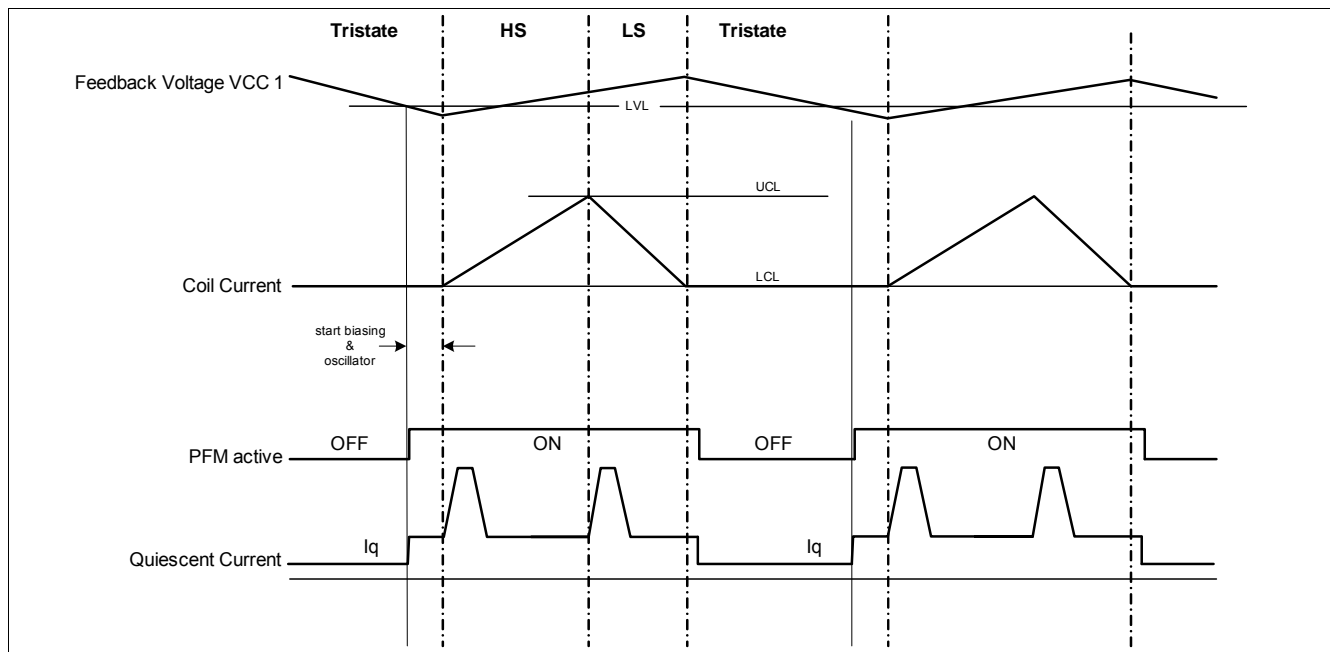

Figure 9 Typical PFM timing diagram
- PFM Mode (Pulse Frequency Modulation): This mode is activated automatically when the SBC Stop Mode is entered. The PFM Mode is an asynchronous mode. PFM Mode does not have a controller switching frequency. The switching frequency depends on conditions of the Buck regulator such as the following: input supply voltage, output voltage, output current and external components. A typical timing diagram is shown in Figure 9. The Buck converter in PFM Mode has a tolerance of $\pm 4\%$. The transition from PFM mode to PWM mode is described in Chapter 6.2.2.